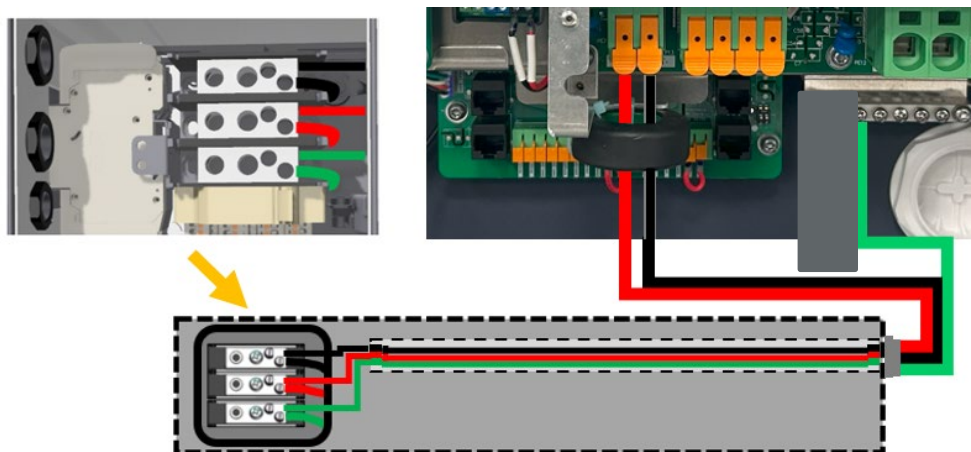

Figure 29: Alternative battery to inverter power and battery to inverter ground connections
- Connect the **inverter grid neutral (G-N)** to the **neutral busbar in the SEP**, ensuring that the color coding is precisely followed, as shown in the reference figure 29.